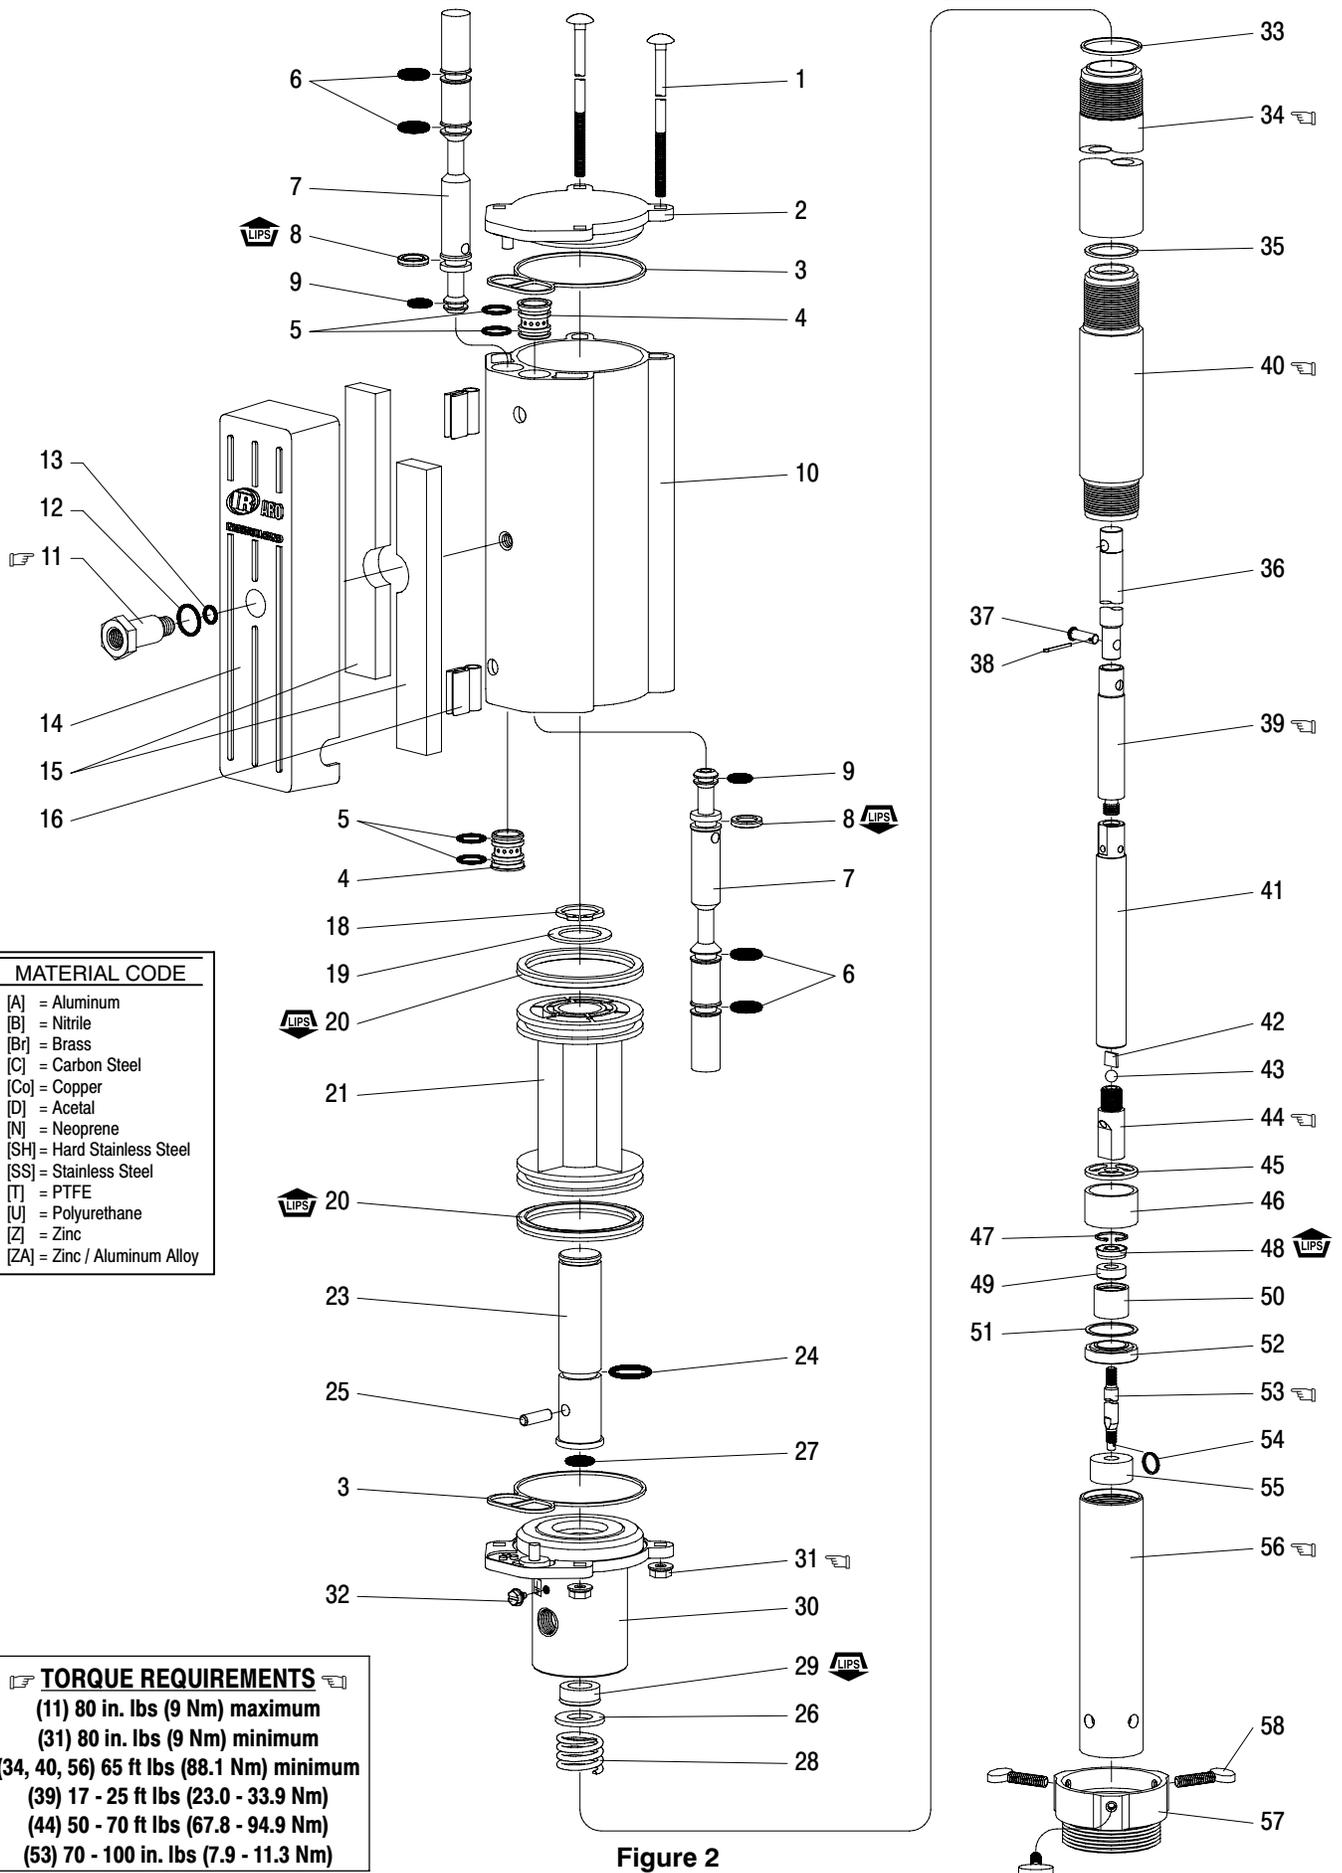

Figure 2
**NOTE: All threads are right hand. Refer to figure 2 (page 3). Disconnect air supply and relieve all system pressure prior to servicing.** Carefully remove the parts, inspect for damage, nicks or excessive wear and determine if any parts will need replacement.
1. Using a 7/8" wrench, unthread and remove (11) adapter and (12 and 13) "O" rings, releasing (14) muffler housing.
2. Using a 7/16" wrench, remove (31) nuts.
3. Remove four (1) bolts, (2) upper cap and (3) gasket.
4. Remove (10) cylinder, containing (4) sleeves and (7) spools.
5. Using (1) bolt, push (7) spools and (4) sleeves out "sleeve" end of (10) cylinder.
6. Remove (18) retaining ring, (19) washer and (21) piston.
7. Remove (25) dowel pin, releasing (23) piston adapter.
8. Remove (3) gasket.
9. Clamp (34) extension tube horizontally in a vise. Unthread and remove (30) base, (33) gasket, (28) spring and (26) washer. NOTE: Remove (29) rod seal only if replacement is necessary.
10. Pull up on (36) piston rod to reveal (38) cotter pin.
**NOTE: Thoroughly clean and lubricate all seals and bores with Shell Gadus S2 U1000 upon assembly. Replace all soft parts with new ones included in the repair kit.** Note: Refer to the illustration (figure 2, page 3) for "U" cup lip seal direction.
1. Assemble (42) ball stop and (43) ball into (41) plunger, securing with (44) adapter. NOTE: Torque (44) adapter to 50 - 70 ft lbs (67.8 - 94.9 Nm).
2. Assemble (53) primer rod to (44) adapter, using wrenches on flats to tighten. NOTE: Torque (53) primer rod to 70 - 100 in. lbs (7.9 - 11.3 Nm).
3. Thread (39) connector to (41) plunger, using a 7/32" diameter rod thru the cross hole to tighten. NOTE: Tighten (39) connector to 17 - 25 ft lbs (23.0 - 33.9 Nm).
4. Assemble (49) guide spacer and (48) "U" cup into (50) valve body, securing with (47) retaining ring. NOTE: Assemble chamfered corner of (49) guide spacer into (50) valve body first.
5. Assemble (45) guide washer and (47 - 50) foot valve assembly onto (53) primer rod.
6. Assemble (46) spacer, (51) gasket and (52) valve seat onto (53) primer rod.
7. Thread (55) primer onto (53) primer rod, securing with (54) retainer ring.
8. Thread (56) primer tube to (40) lower suction tube and tighten. NOTE: Torque (56) primer tube to 65 ft lbs (88.1 Nm).
9. Assemble (36) piston rod to (39) connector, securing with (37) connecting pin and (38) cotter pin.
10. Assemble (35) gasket and (34) extension tube to (40) lower suction tube and tighten. NOTE: Torque (34) extension tube to 65 ft lbs (88.1 Nm).